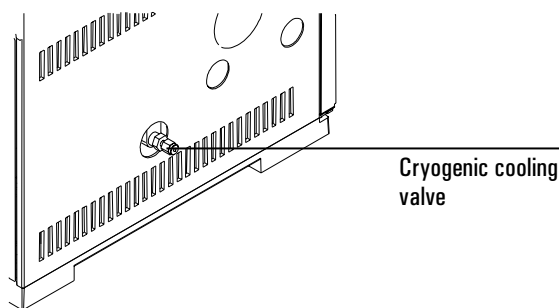

Figure 17. Location of cryogenic cooling valve
1. Locate the inlet for liquid CO₂ on the **left** side of the GC. Prepare enough tubing to reach from the supply tank to this fitting. See Figure 17.